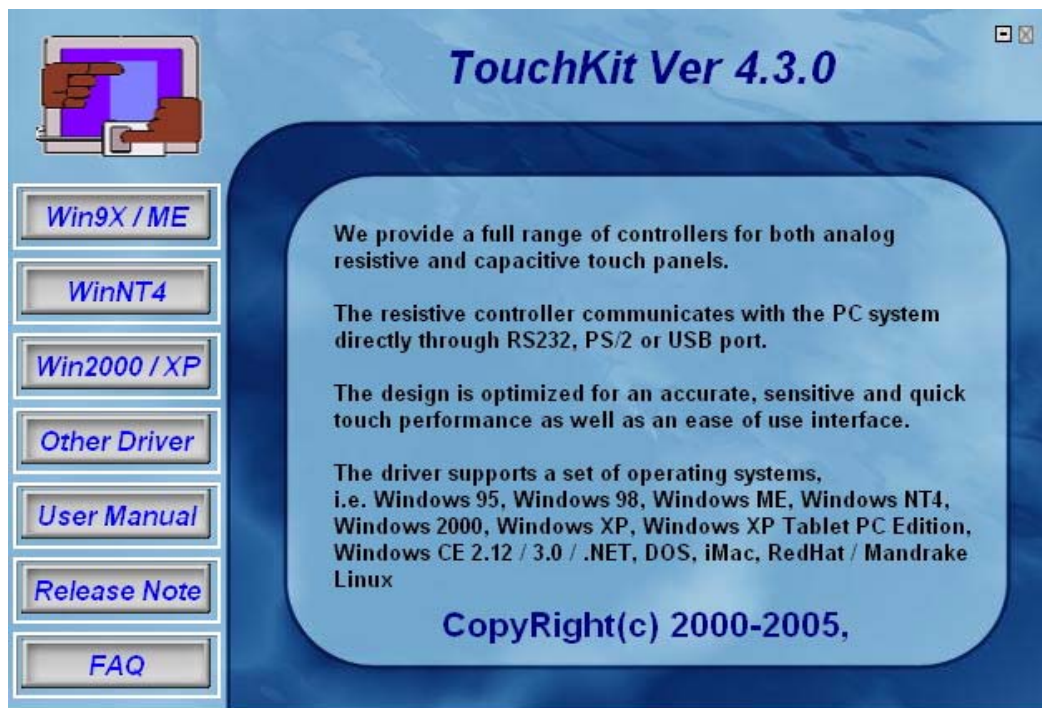

Figure D-1: Driver CD Pop Up Screen
Step 2: Once the CD drive is installed, the screen in **Figure D-1** appears.